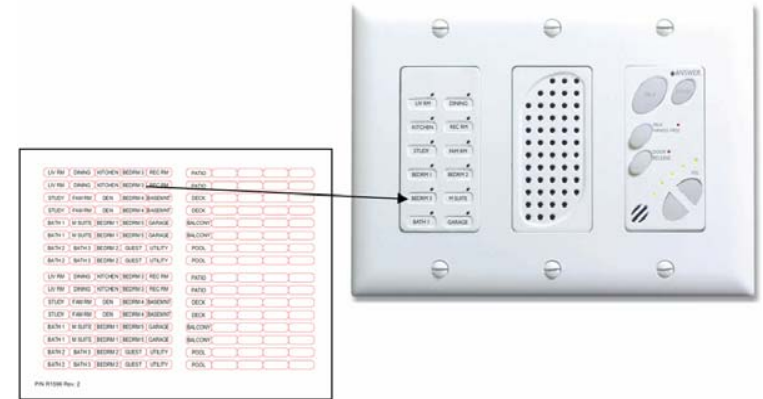

Figure 5 - Label Each Location on Main Console
- Once all Units have been trimmed-out, use the provided location labeling sheet (R1596) to label each location in the status section on the front of the Main Console (see **Figure 5**). This really helps make your system installation much more professional.